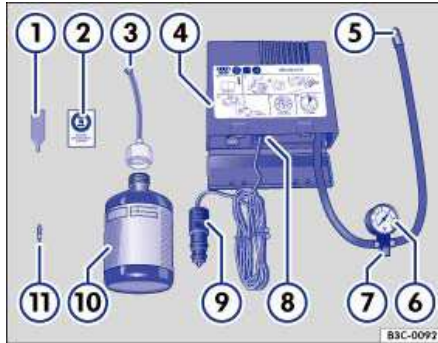

Fig. 177 Basic diagram: Contents of the tire mobility set (if equipped).
The tire mobility set is stored in the luggage compartment under the floor covering. It contains the following => fig. 177:
10. Affix the label ⇒ fig. 177 \(2\) from the tire mobility set on the instrument panel in the driver's field of vision.
- Unscrew the valve core from the tire valve using the valve core wrench ⇒ fig. 177 \(1\) and place it on a clean surface.
- Vigorously shake the tire inflation cylinder ⇒ fig. 177 \(10\) a few times back and forth.
- Tightly screw the filling hose ⇒ fig. 177 \(3\) to the tire inflation bottle (turn clockwise). The foil on the seal is automatically pierced.
- Remove the sealing plug from the filling hose ⇒ fig. 177 \(3\) and slide the open end all the way onto the tire valve.
- Using the valve core wrench ⇒ fig. 177 \(1\) screw the valve core back into the tire valve.
- Screw the tire inflation hose ⇒ fig. 177 \(5\) of the air compressor tightly to the tire valve.
- Check whether the air release valve ⇒ fig. 177 \(7\) is screwed on tightly.
- Insert the cable plug ⇒ fig. 177 \(9\) into a 12 Volt socket of the vehicle
- Switch the air compressor on using the ON /OFF switch ⇒ fig. 177 \(8\),
Connect the tire inflation hose ⇒ fig. 177 \(5\) again and read the tire pressure on the tire pressure gauge (6).